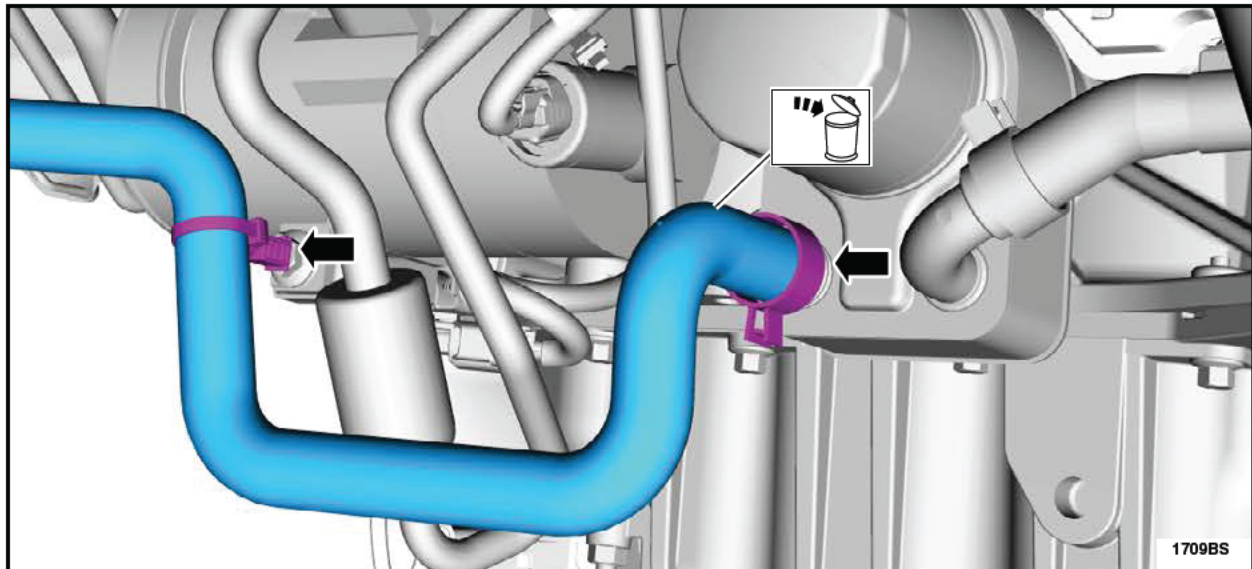

FIGURE I7
6. Detach the retaining clip and disconnect the degas bottle hose from the engine oil cooler assembly. Remove and discard the degas hose assembly. See Figure I7.